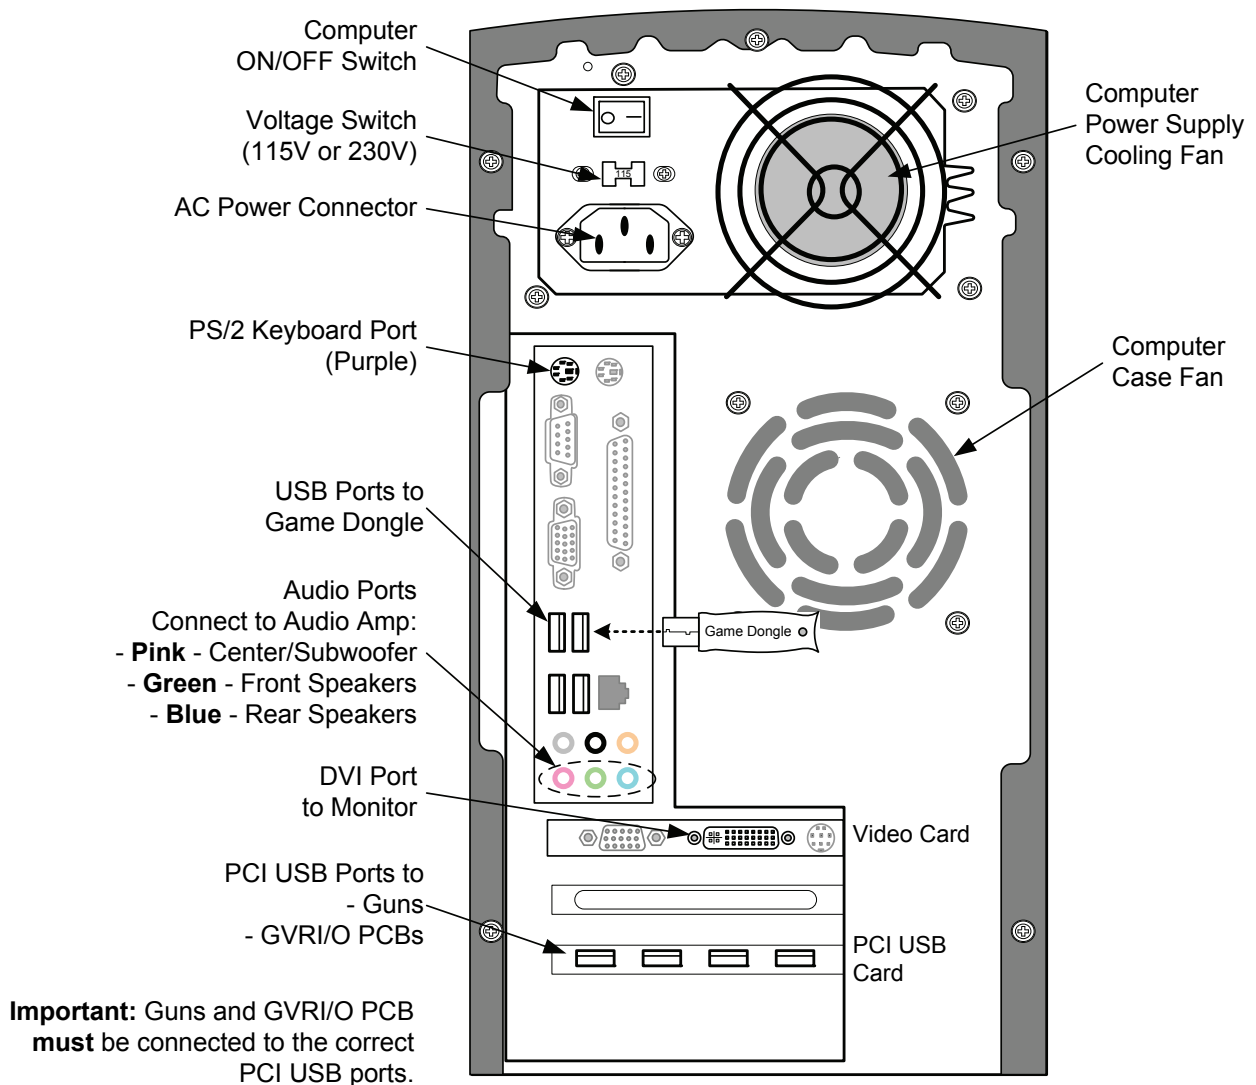

Figure 1. Computer Rear Panel Diagram—Gigabyte GA-945GM-S2 Motherboard
- Audio ports are different, as shown in *Figure 1*